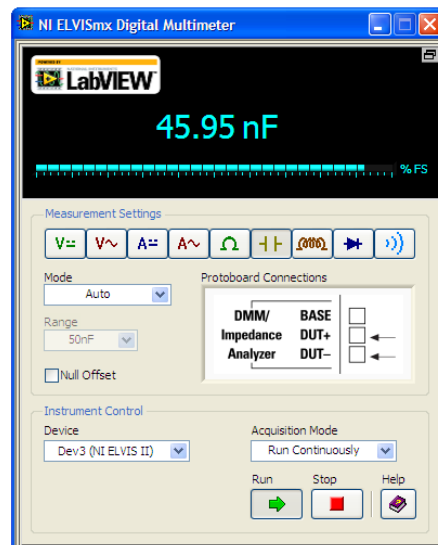

Fig. 10. Digital Multimeter SFP indicating the capacitor's value.
16. Click the Capacitance button to use the Digital Capacitance Meter function to measure the value of the capacitor. Once the measurement is successful the output should appear as show in Fig. 10.